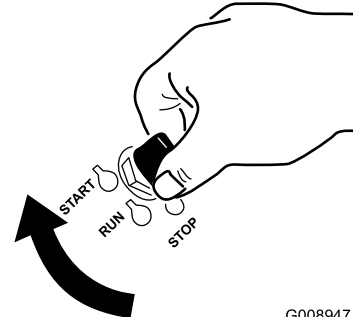

Figure 17
1. Turn the ignition key to the Start position (Figure 17).